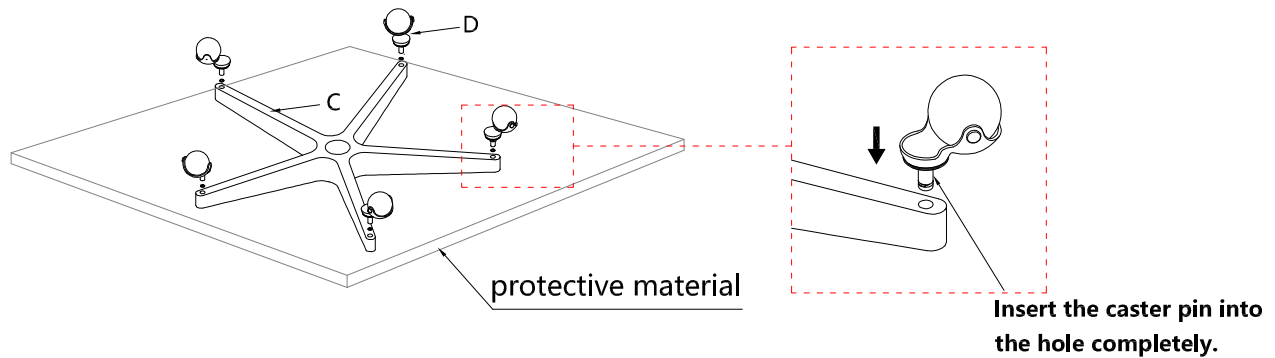

Figure 1
2. Put the 5-Star Base (C) on a flat surface with top down. (Note: Cover the work surface with a protective material to prevent damage to it and the chair base.) Attach the Casters (D) underneath the 5-Star Base (C) (shown in Figure 1).